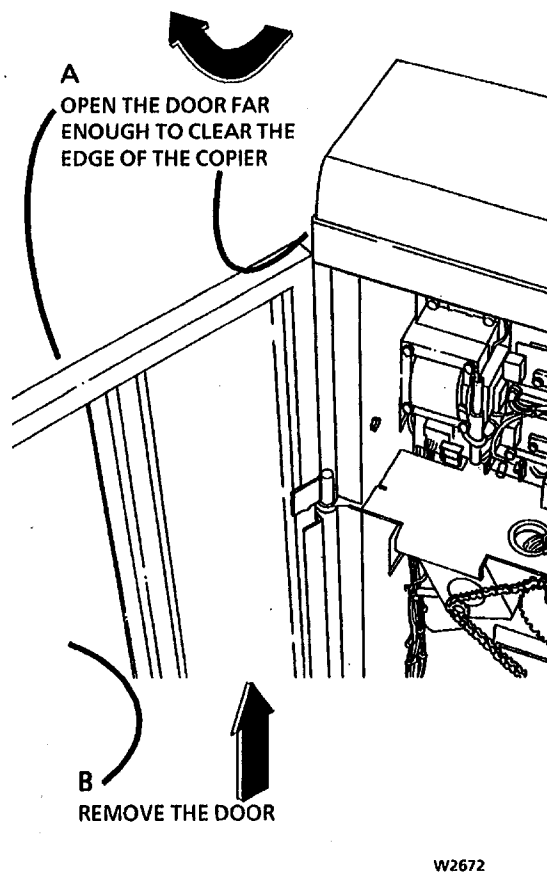

Figure 1. Remove the Left Side Door
1. (Figure 1): Remove the Left Side Door.